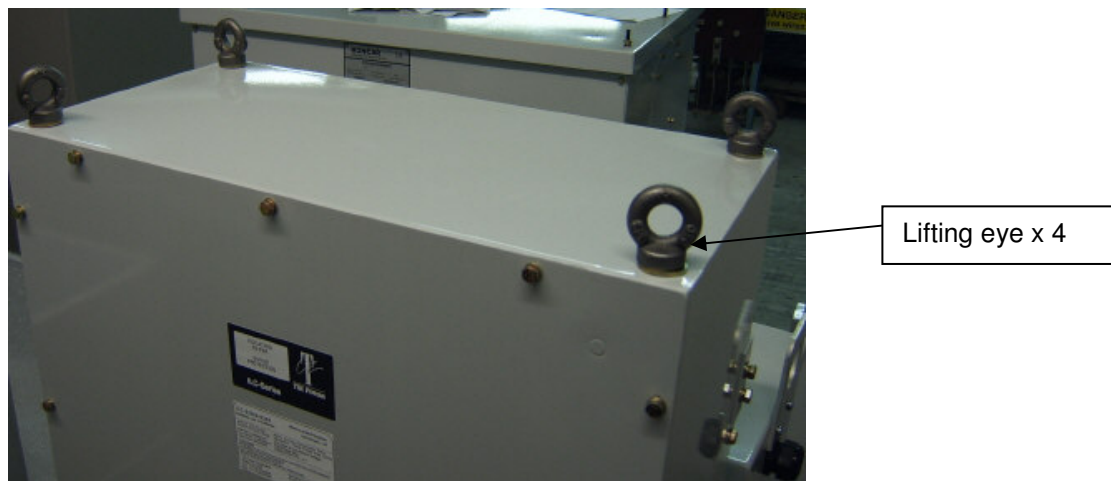

Figure 2
- (i) All 4 removable lifting eyes must be used for lifting the unit (see figure 2)